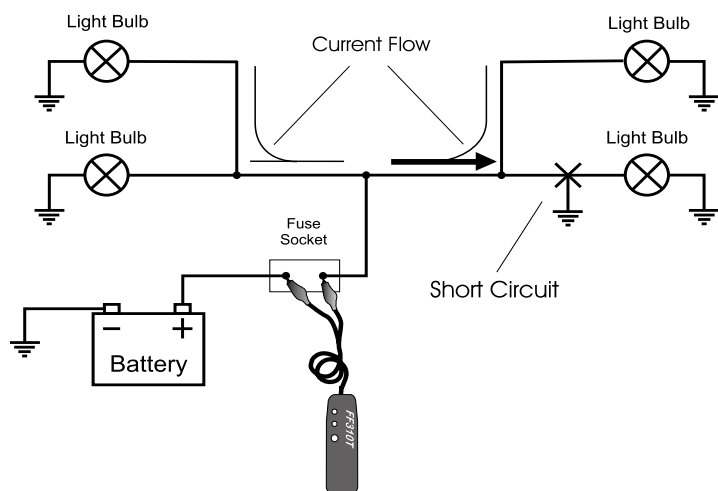

Fig. 10 - Schematic of a single circuit with multiples loads
- When tracing circuits connected to, or which are powering multiple loads and/or branches (See Fig. 10), and when these circuits are active or live, the bulk of the current injected into the circuit by the FF310T will be directed to the shorted branch of the circuit. However smaller amounts of current (or stray currents) will flow to the other branches as long as these provide a path to ground (i.e. close the circuit).
- The simplest and most effective way to deal with these cases, is to disconnect or remove all the loads from the circuit being traced (i.e. removing light bulbs in example shown in Fig. 10).